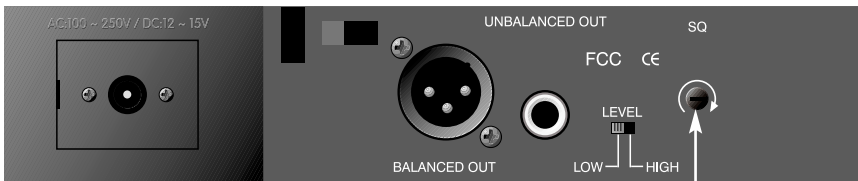

Figure 9
2. If the SIGNAL LED indicators of the receiver are illuminated before switching on the microphone or transmitter, it indicates the receiver is receiving interference signals. The more LEDs that illuminate the more severity of interference. This system has "Pilotone" and "NoiseLock" dual-squelch features so noise output will not occur. If multiple channels are used and both SIGNAL and AUDIO LEDs illuminate before the transmitter is turned on, simply adjust the Squelch controls clockwise until the AUDIO signal indicators extinguish. (Figure 9). However, by adjusting the squelch controls it affects the sensitivity level of the receiver, therefore, shortening the operating distance and decreasing the stability.